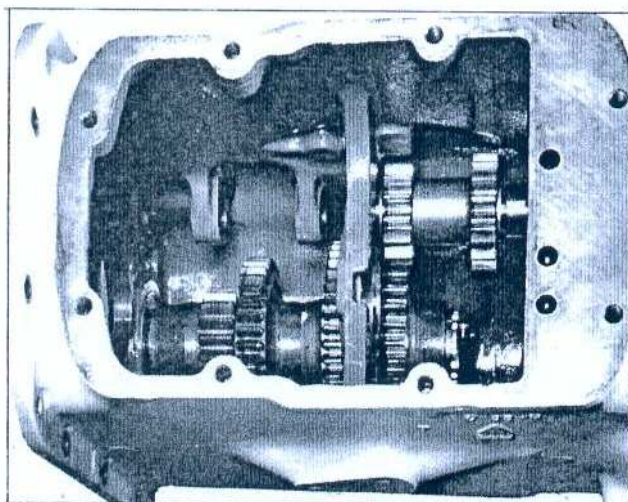

Fig. 13 - Countershaft Gear and Reverse Idler Properly Installed
on front of countershaft and secure with snap ring. Fig. 13 shows the countershaft and gears properly installed.
- (1) Apply a coating of grease in the bore of the reverse idler gear to hold the 46 needle bearings in place during reassembly.
- (2) Hold gear, with 1 retainer washer, in one hand and insert 23 needle bearings into the gear against the retainer washer. Then, insert the center spacer, followed by another row of 23 needle bearings and a retainer washer.
- c. Start 1 thrust washer on end of shaft. Then, hold the reverse idler gear in place, with larger gear forward, and carefully slide shaft through gear and bearings. Install another thrust washer against the gear and slide shaft into place. See Fig. 13.